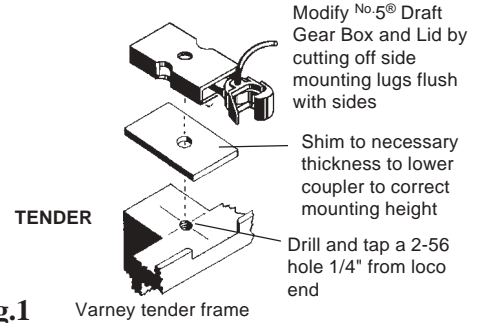

Fig.1 No.5® Installation
2. For tender: Widen coupler pocket to 5/16". Drill and tap a 2-56 coupler mounting hole, 1/4" from pocket end on tender centerline. See Fig.1.
3. Make shims 5/16" wide by 3/8" long with a 2-56 clearance hole in center or use Kadee® #211 shims with side mounting lugs cut off to lower No.5® Coupler to correct mounting height. See Fig.1.